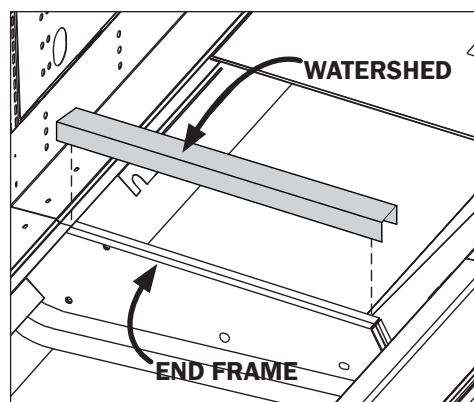

Fig. 8 Sealing the pipe chase
6. Apply case-to-case watershed (supplied) over the end frame seam (Fig. 8). The watershed prevents water from